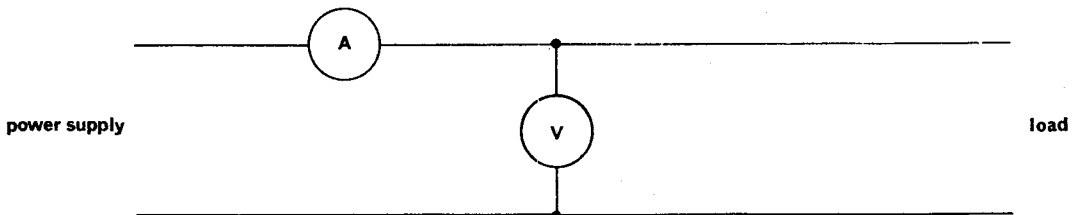

Fig. 1. Measurement of voltage and current
2. **Direct current.** Direct power measurement on d.c. power supplies is extremely rare. The power is usually calculated from voltage and current measurements as shown in figure 1 using the equation: **Power (watts) = Voltage (volts) × Current (amps).**